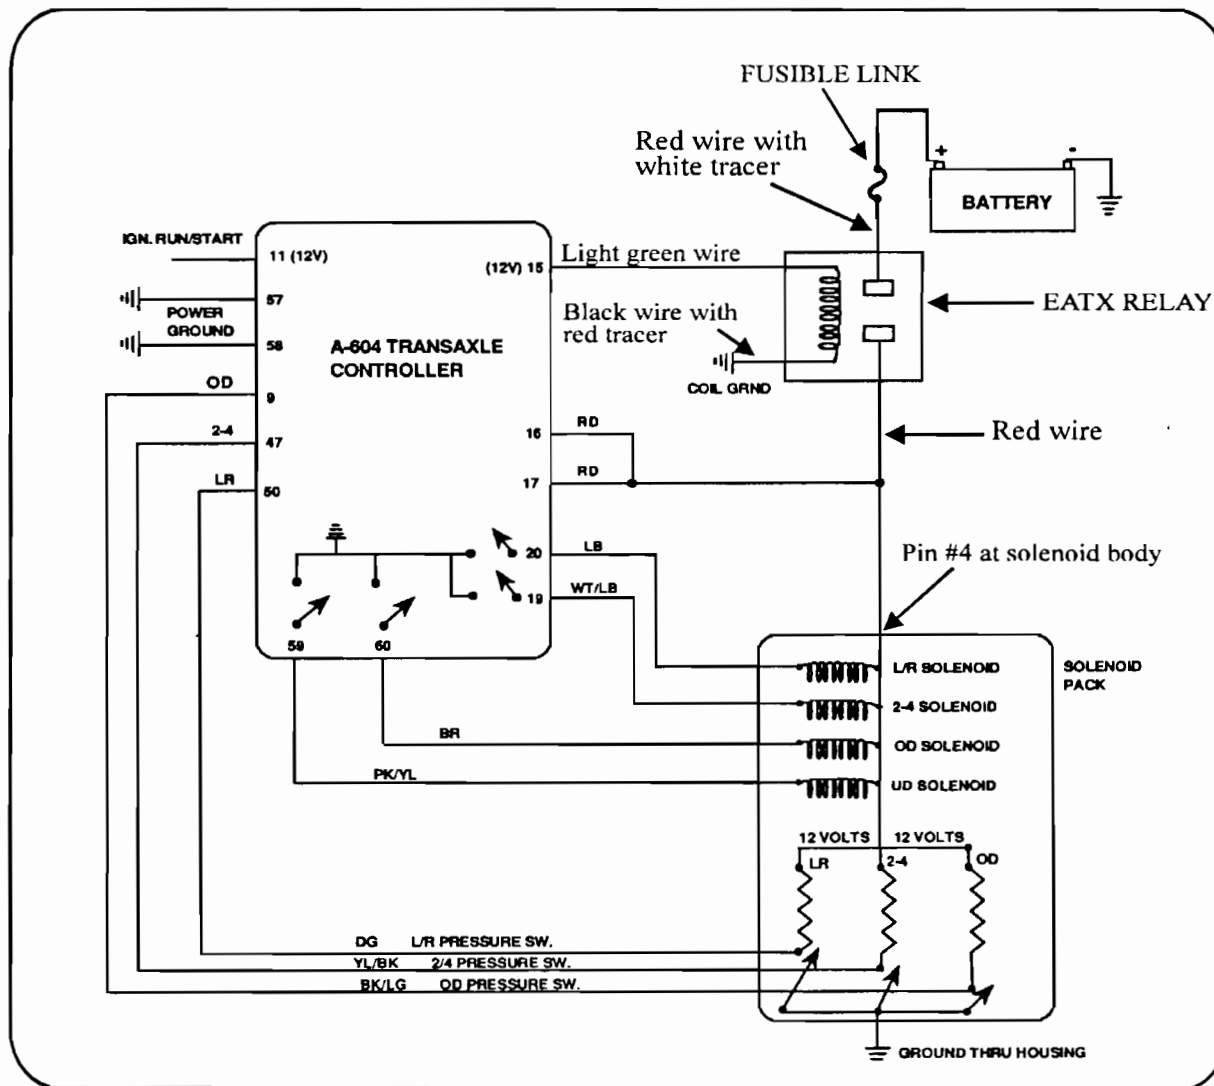

Figure 11
**CAUSE:** The cause may be a loss of voltage supply to pin number 4 at the solenoid body which is controlled by the EATX relay. The EATX relay (Electronic Automatic Transaxle) is operated by the controller. Its purpose is to provide battery voltage to the solenoids and switches. When the controller receives an ignition run signal from the ignition switch, it will first perform a number of circuit checks and a EATX relay check. The controller will initialize and activate the EATX relay if no circuit problems are found. One side of the EATX relay coil is grounded and the controller applies battery voltage to the opposite side. This power comes from the controllers direct battery supply circuit. When the EATX relay contacts close, battery voltage is supplied to pin number 4 at the solenoid body and pins 16 & 17 on the controller. This is referred to as switched battery voltage (See Figure 11). The controller uses pins 16 & 17 to monitor the relay function and applied voltage. If the contacts in the EATX relay cannot close, switched battery voltage cannot be supplied to pin number 4 at the solenoid body or pins 16 & 17 at the controller causing the 2nd gear starts and no up shifts even after an ignition cycle. Fault code 15 may be accompanied with this fault which means EATX relay off.